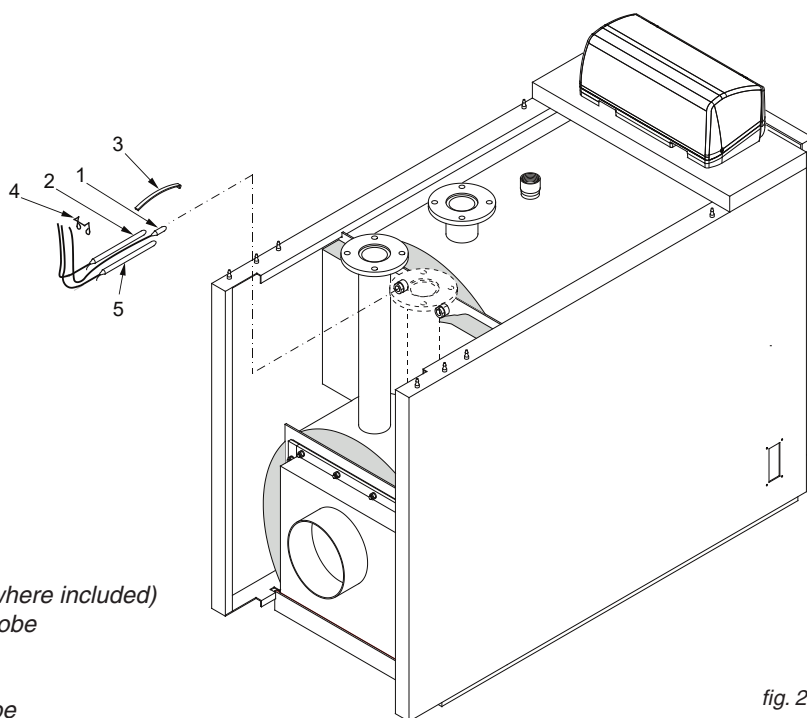

fig. 21
Insert into the conduits the bulbs of the instruments as indicated in fig. 21 and, depending on the panel board installed on the boiler, the probes as illustrated in the electric-hydraulic diagrams (page 26).
- G) Insert into the conduits the bulbs of the instruments as indicated in fig. 21 and, depending on the panel board installed on the boiler, the probes as illustrated in the electric-hydraulic diagrams (page 26).
indicated in fig. 21 and, depending on the panel board installed on the boiler, the probes as illustrated in the electric-hydraulic diagrams (page 26).